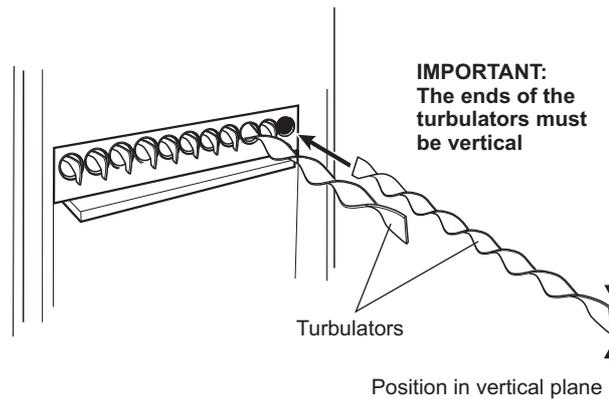

Fig. 25 - Turbulators (50/70, 70/90 shown)
- 7 Pull out the spiral turbulators from the heat exchanger tubes. See Fig. 25.